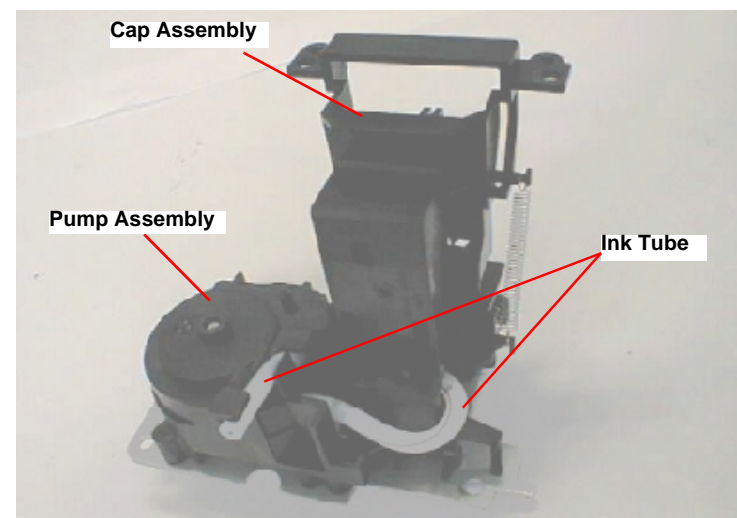

Figure 4-16. Placing the Ink Tube in the Ink System
- Check that the ink tube is connected securely to the connect portion of the Cap Assembly. Refer to the Figure 4-16.
- Check that the ink tube is placed correctly in the Ink System Assembly. Refer to Figure 4-16.